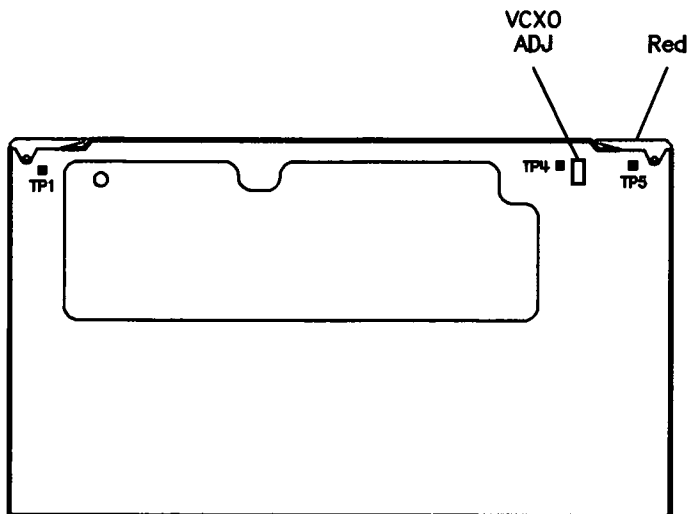

Figure 5–8. VCXO Adjustment Location
1. Connect the instruments as shown in Figure 5–6. Make sure the drive is set to HP–IB address 00.
1. Connect port 1 of the analyzer to the frequency counter input (see Figure 5–5). Press **RECALL**
3. Otherwise, locate the A12 assembly (red extractors) and adjust VCXO ADJ (see Figure 5–8) for a frequency counter reading as close to 13.5 GHz as possible.
2. Disconnect W3 from S2J3 and connect the frequency counter to S2J3. See Figure 5–9.
4. Calibrate the power meter. Remove the frequency counter and connect the power sensor to S2J3. Adjust the low band power level (see Figure 5–10) so that the power meter displays 0 dBm.
2. Calibrate the power meter and connect it to port 1 (see Figure 5–10).
3. Use the blanking adjustment to obtain -12 dBm at port 1, (-17 dBm for Opt. 006) (see Figure 5–9).